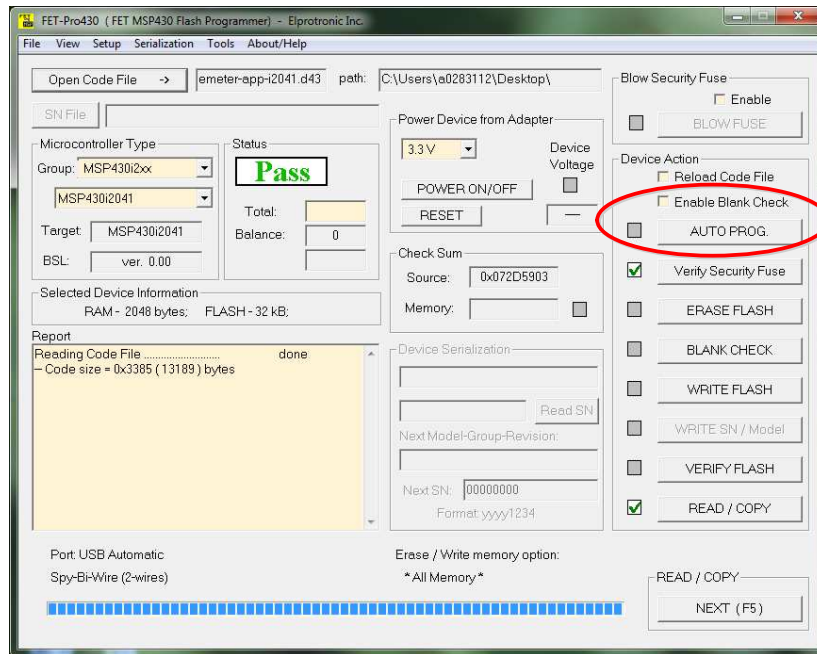

Figure 17. Start Firmware Programming
12. Close the *Flash Memory Data* window and click the "AUTO PROG" button (see Figure 17)